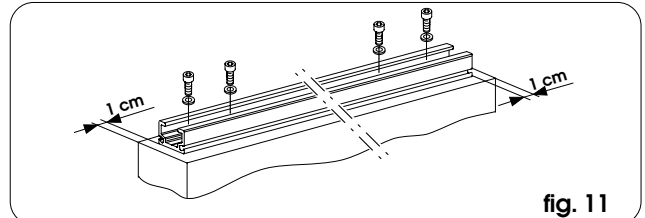

fig. 11
- Fit the leaf fitting profile on the top of the leaf, using adequate screws and observing the dimensions shown in fig. 11.